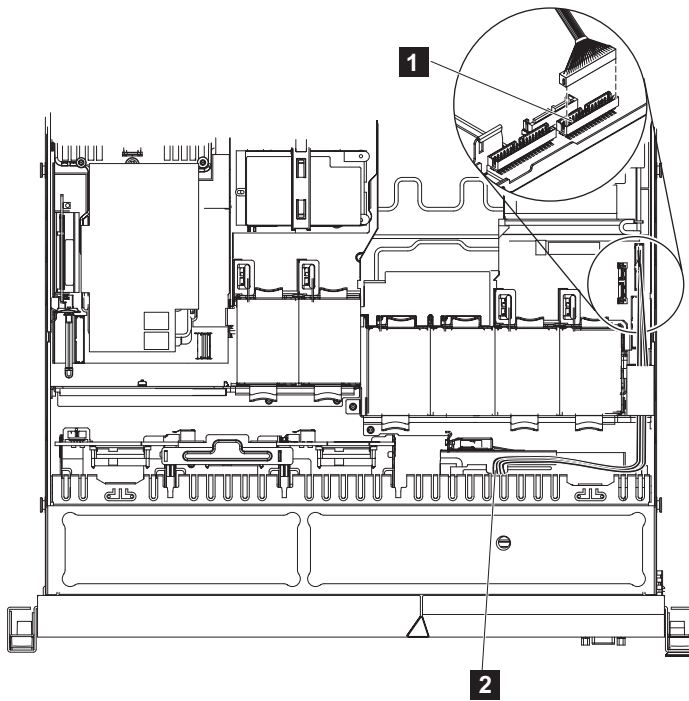

Figure 232. Disconnecting the SAN Volume Controller 2145-CG8 or 2145-CF8 operator-information panel cable
3. Disconnect the cable from the connector above the Video/USB cable connector on the right side of the node, as shown in Figure 232 on page 234.